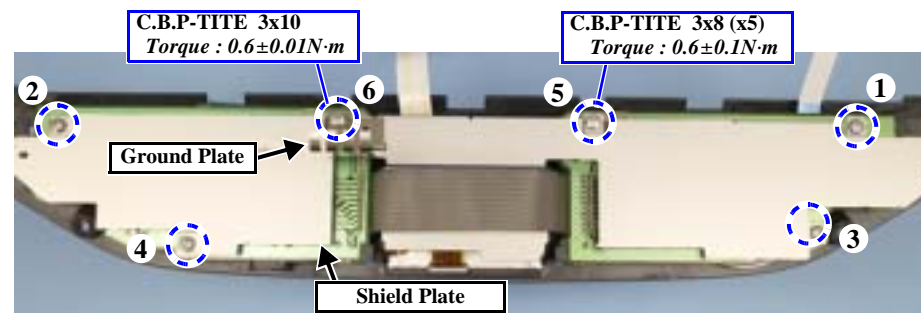

Figure 4-4. Removing the Screws (Shield Plate)
2. Remove the screws (x6) securing the Shield Plate, Panel Board and Ground Plate, and remove the Shield Plate upward. (Fig. 4-4)
- When installing the Shield Plate, tighten the screws in the order specified. (Fig. 4-4)